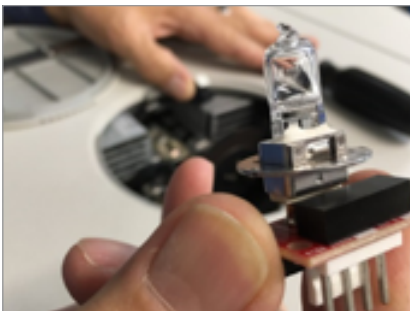

Figure 8
4. Remove the old expended lamp assembly. Carefully open the new lamp. **Do not touch the glass part of the lamp with your fingers**, as this will shorten the life expectancy of the lamp. If your finger touches the glass portion of the lamp, wipe the lamp clean with a soft cloth. Insert the replacement lamp into the housing. The notch in the base of the lamp housing lines up with the pin to the right of the assembly (Figures 8 and 9).